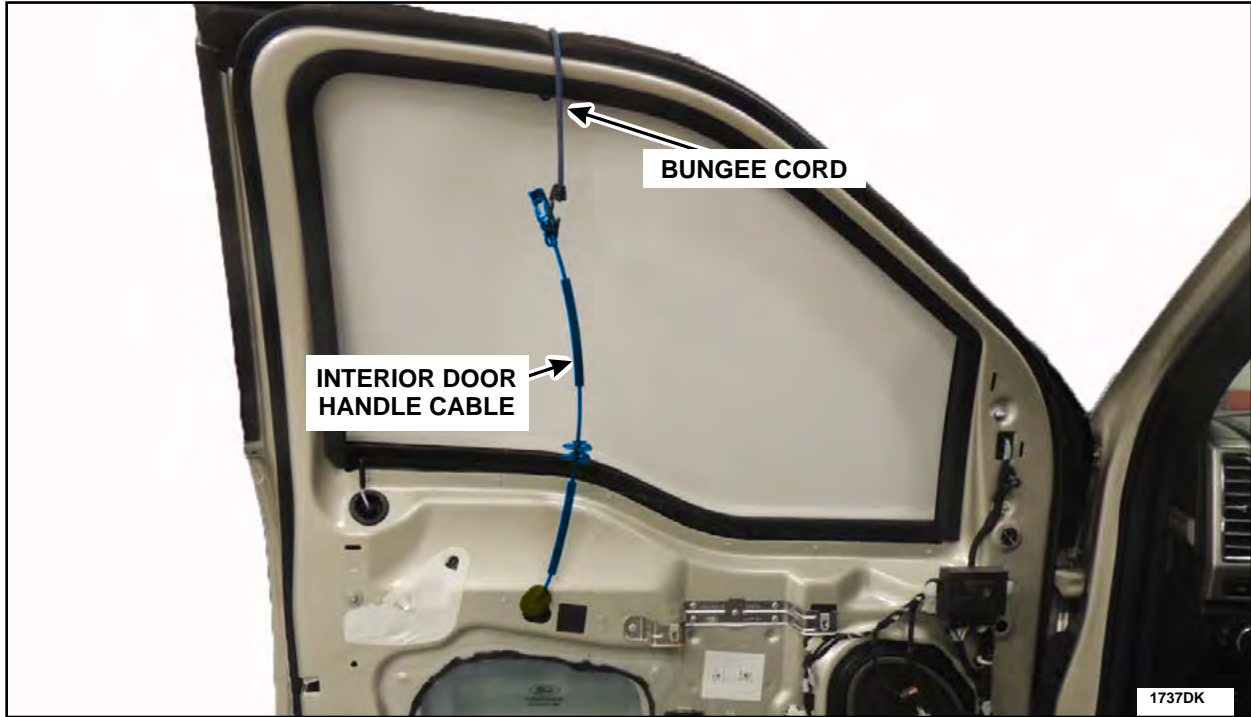

FIGURE 40
- Using a bungee cord or other similar device, secure the interior door handle cable to the door in an upward position to allow the Motorcraft® XL-6 Lubricant time to run down into the cable, until the interior door handle cable is reinstalled later in this procedure. See Figure 40.